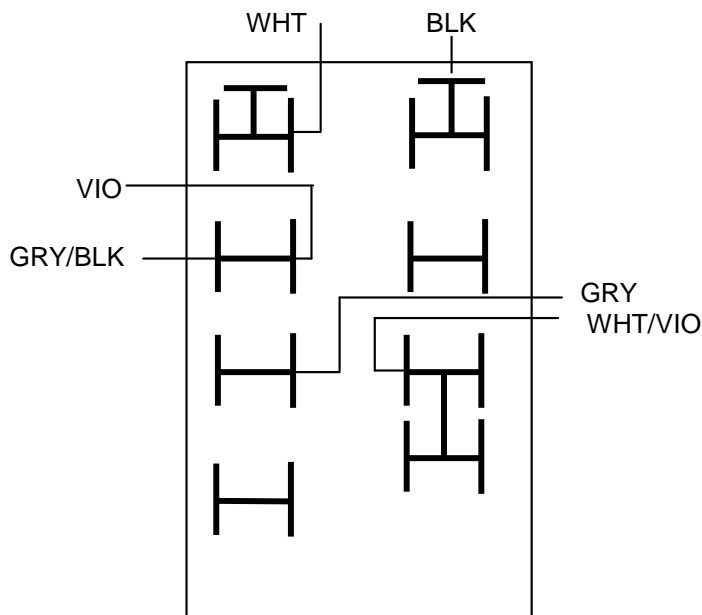

Fig. 9 Wired for 220VAC Operation
- 1 – 171159 Line Cord (UK)
- Step 1: Wire transformer terminal block for 220V operation as shown in Figure 9.